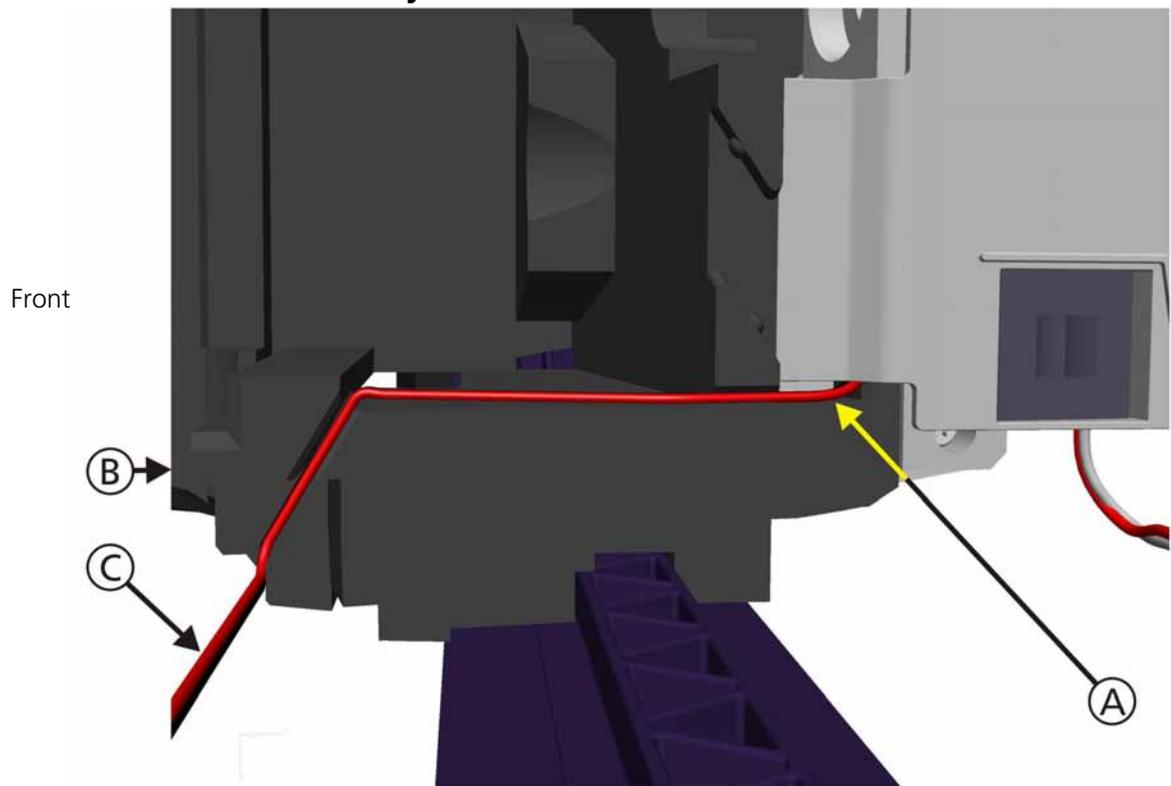

Figure 11-53. Nebulizer Cable Assembly (Top View)
- Figure 11-53, *Nebulizer Cable Assembly (Top View)*, on page 11-60